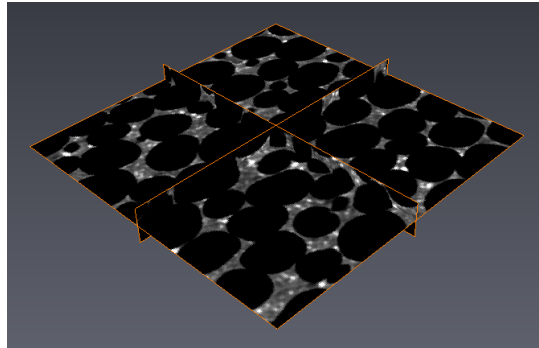

Figure 6.1: Initial data
- Attach two other *Ortho Slice* modules. In the Properties panel of the second *Ortho Slice*, select the *xz* orientation and the *yz* orientation in the Properties panel of the third *Ortho Slice*. See the resulting display on Figure 6.1.